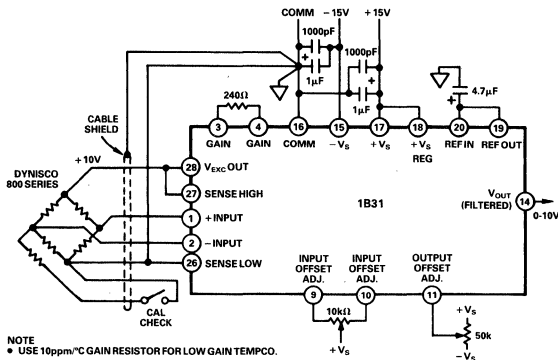

Figure 16. Pressure Transducer Application
**Pressure Transducer Interface:** A strain gage type pressure transducer (Dynisco 800 series) is interfaced to a 1B31 in Figure 16. Regulated excitation of +10V dc is provided for a 30mV full-scale output. The gain is set at 333.3 to achieve a 0-10V output for a 0-10,000 psi range of the transducer. A shunt calibration resistor is built into the transducer for easy verification of the 80% point of its full-scale output. A typical shielding scheme to preserve the excellent performance characteristics of the 1B31 is also shown. To avoid ground loops, signal return or cable shield should be grounded only at one point.